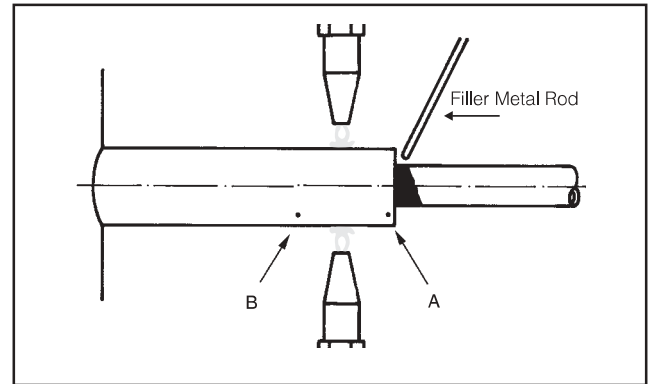

FIG. 9
3.1.2.5 When the filler rod begins to melt, apply the torch from point A to point B and vice versa until the filler metal penetrates between the tubes. (Fig. 9)
3.1.2.8 Should porosity be suspected or identified in the brazement, heat joint again, moving the torch from point A to point B and vice versa (see fig. 9). If necessary, add the least possible amount of filler metal.
3.2.3.5 Should porosity be suspected or identified in the brazement, heat joint again, moving the torch from point A to point B and vice versa (see fig. 9). If necessary, add the least possible amount of filler metal.